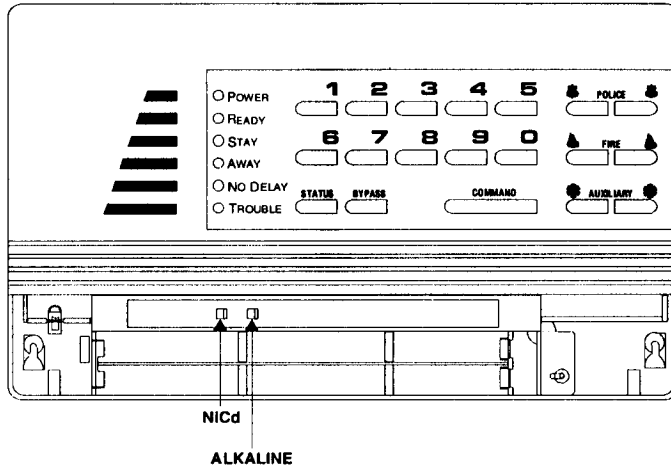

Figure 4. Tab Indicates Battery Type Installed
3. Check the battery type installed (NiCd or alkaline). You must use the same battery type that is currently installed (see Figure 4).